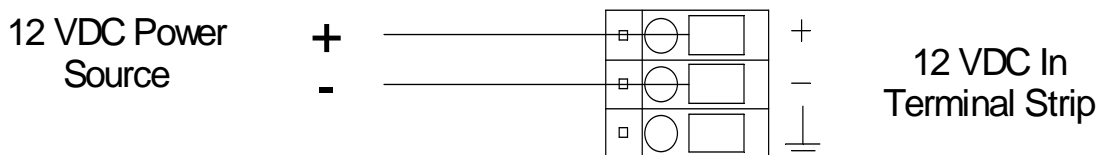

Figure 7. Power Wiring
5. Connect the leads from the power supply to the DC In terminal strip as shown in Figure 7.